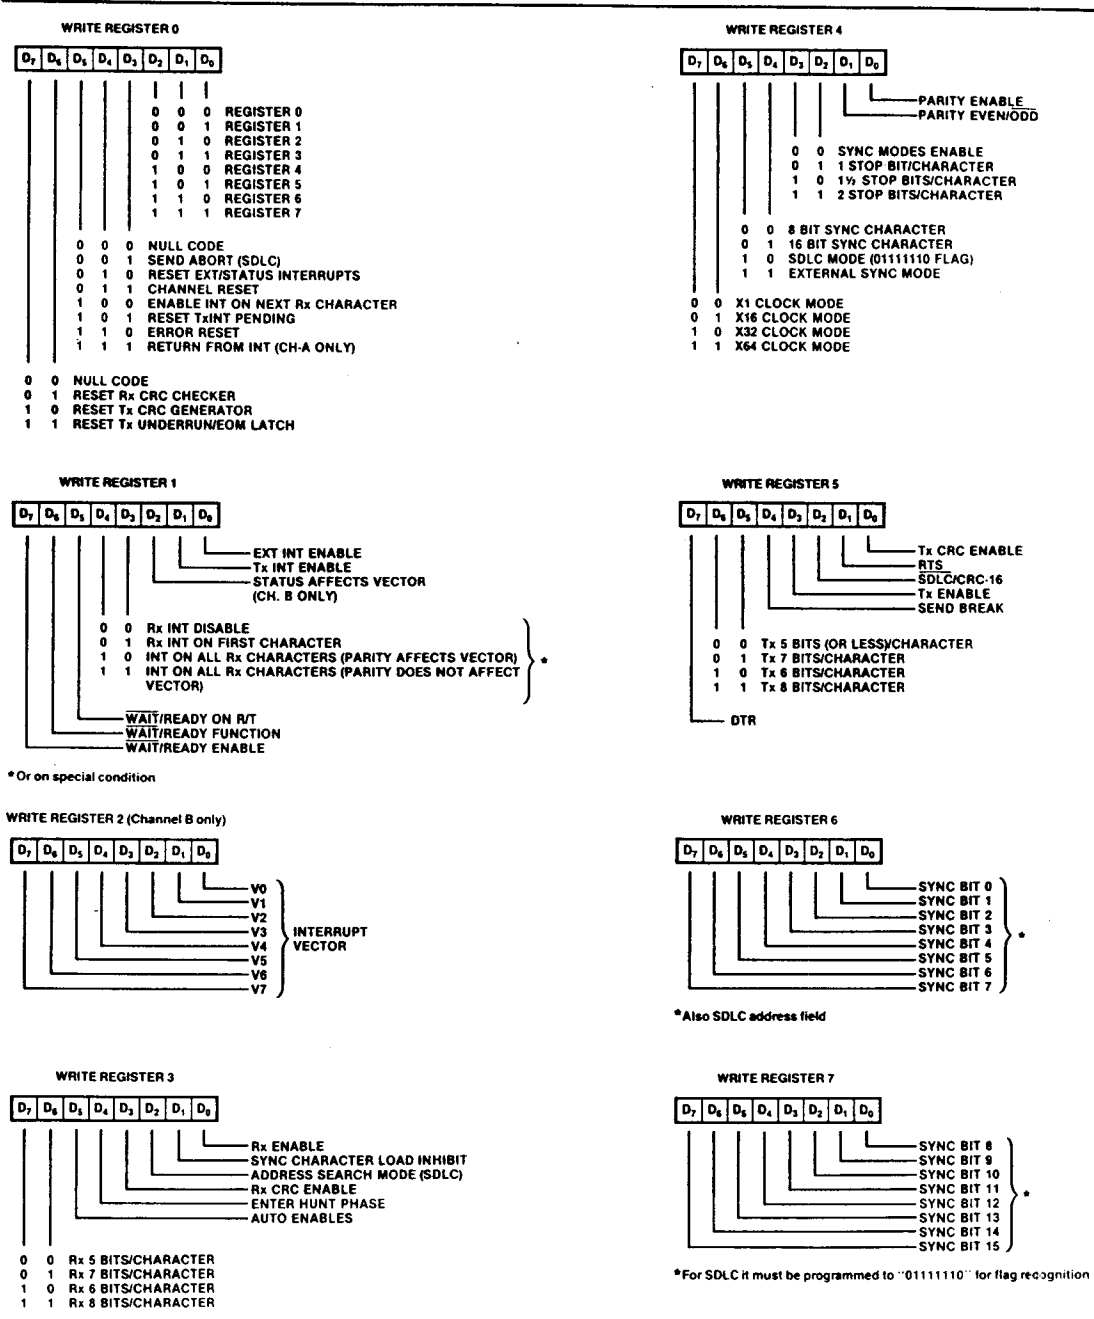

Figure 14. Write Register Bit Functions
**RTSA, RTSB.** *Request To Send* (outputs, active Low). When the RTS bit in Write Register 5 (Figure 14) is set, the RTS output goes Low. When the RTS bit is reset in the Asynchronous mode, the output goes High after the transmitter is empty. In Synchronous modes, the RTS pin strictly follows the state of the RTS bit. Both pins can be used as general-purpose outputs.
**Write Registers.** The SIO contains eight write registers for Channel B and seven write registers for Channel A (WR0-WR7 in Figure 14) that are programmed separately to configure the functional personality of the channels; WR2 contains the interrupt vector for both channels and is only in the Channel B register set. With the exception of WR0, programming the write registers requires two bytes. The first byte is to WR0 and contains three bits (D0-D2) that point to the selected register; the second byte is the actual control word that is written into the register to configure the SIO.